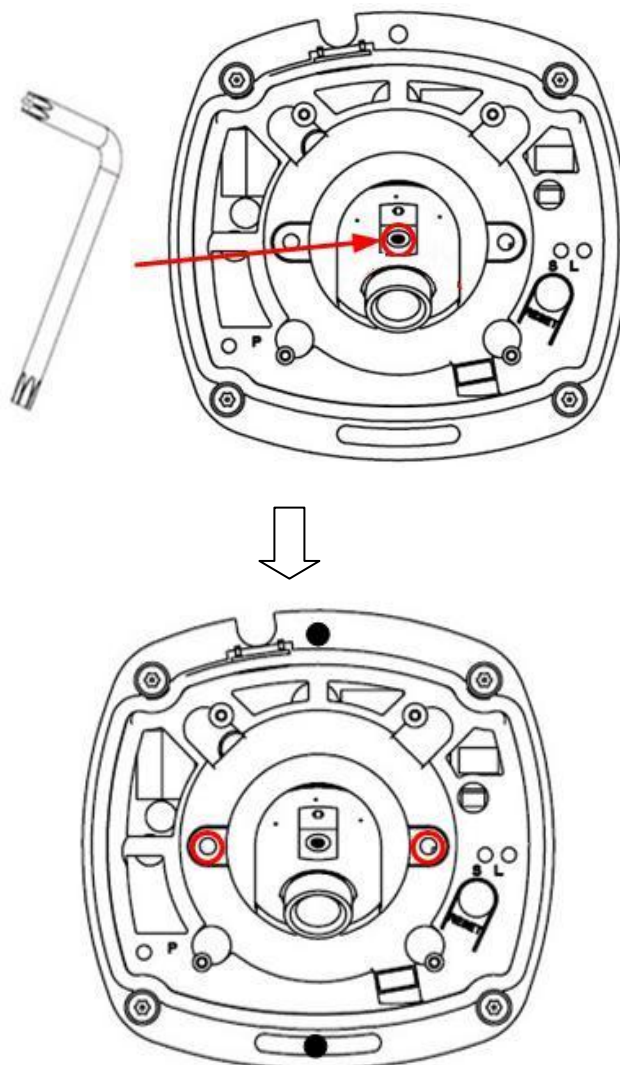

Figure 6-7 Adjust Image
5. Insert the hex key into the hole marked in the Figure 6-7 and rotate the hex key to adjust the panning position and tilting position until getting the desired surveillance angle. Tighten the set screws.